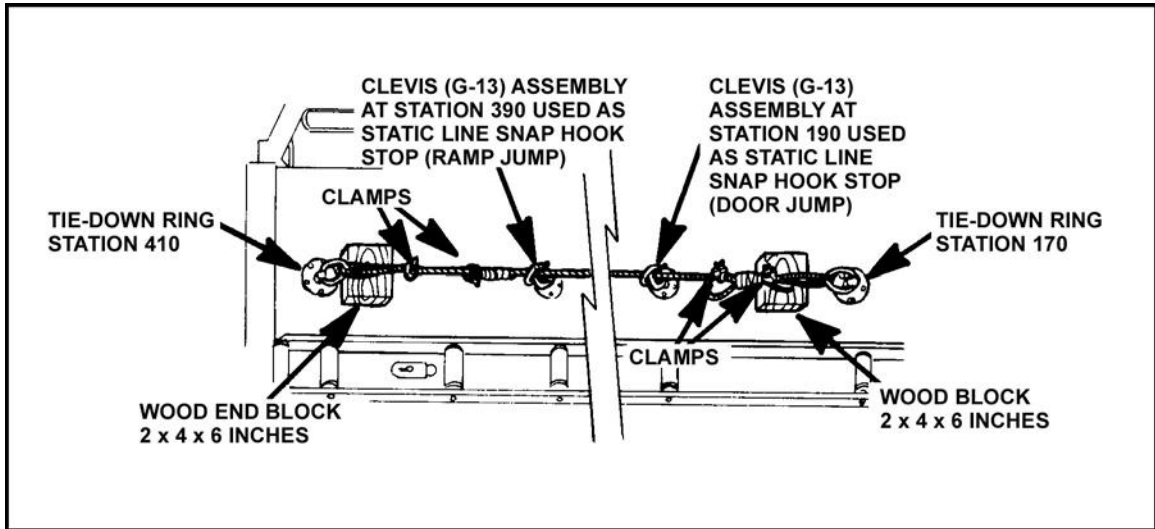

Figure 18-5. CH-46 anchor line cable installation.
(1) Install the anchor line cable on the port side of the floor using the appropriate 3,000-pound tie-down fittings for the length of the cable used (forward attachment point) and station number 410 (rear attachment point) (Figure 18-5, page 18-7).
(2) Use one 1/4-inch or 3/8-inch steel cable (3/8-inch preferred) of an acceptable length with 1/4-inch or 3/8-inch cable clamps and nuts. The minimum installed length of the anchor line cable will be 8 feet between forward and rear attaching points (four to five jumpers). Ensure the installed anchor line cable is long enough so that the jumper's static line goes from the jumper to the anchor line cable without touching other jumpers in front of him in the stick.
(3) Route the anchor line cable directly through the forward and rear attaching point deck rings or use a steel stubai 85 snap link (with locking gate) between the anchor line cable and the aircraft attaching points. Ensure the locking gates on the snap links are facing up, locking to the aft of the aircraft, and taped. Ensure all tape is removed from the anchor line cable components and that the clamps are tight prior to every operation.
(1) The anchor line cable is installed on the floor of the aircraft on the starboard side (Figure 18-5) using the tie-down fittings at station number 170 (forward attachment point) and station number 410 (rear attachment point).
(2) Install one 1/4-inch or 3/8-inch steel cable (3/8-inch preferred), of an acceptable length, with four clamps, lock washers, and bolts that fit the cable. The minimum installed length of the anchor line cable will be 8 feet between forward and rear attaching points (four to five jumpers). Ensure the installed anchor line cable is long enough so that the jumper's static line goes from the jumper to the anchor line cable without touching other jumpers in front of him in the stick.